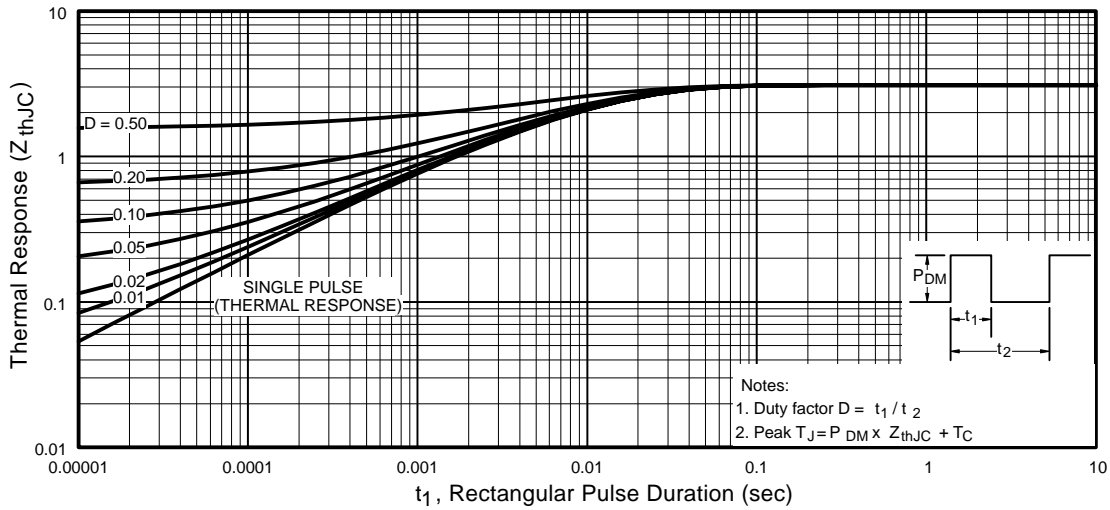

Fig 11. Maximum Effective Transient Thermal Impedance, Junction-to-Case
- ① Repetitive rating; pulse width limited by max. junction temperature. (See fig. 11)
- ② Starting $T_J = 25^\circ\text{C}, L = 13\text{mH}$